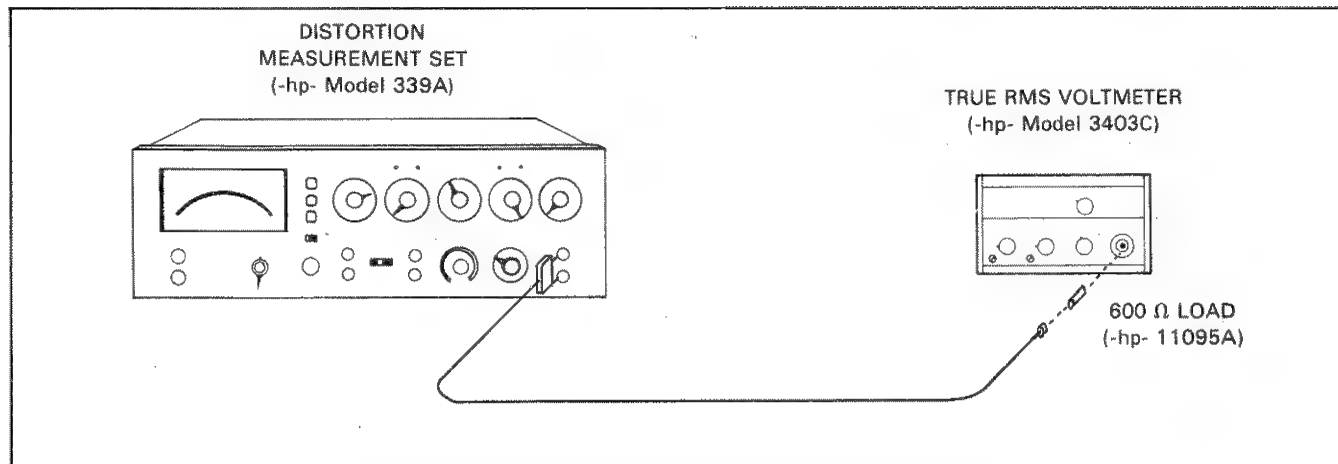

Figure 4-6. Oscillator Output Impedance Test.
b. Connect the equipment as shown in Figure 4-6 (without the 600 ohm load).
e. Disconnect the cable from the True RMS Voltmeter and install the 600 ohm load as shown in Figure 4-6.